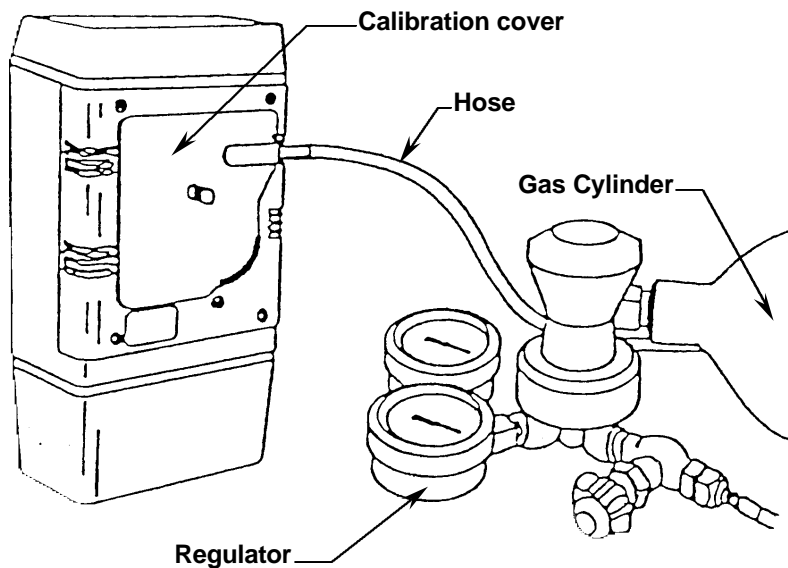

Figure 3-8: Calibration Gas Equipment Arrangement
- Attach the OMNI-4000 calibration cover. See Figure 3-8